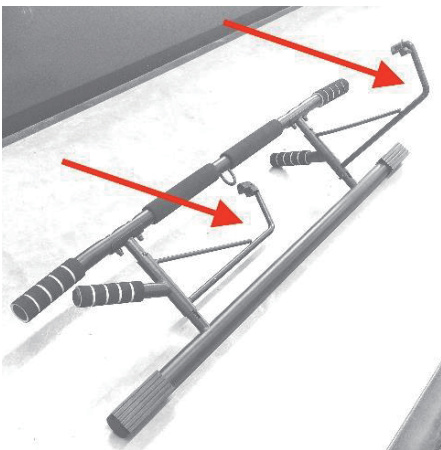

Figure 1
2. Unfold the spring-loaded arms (Figure 1).